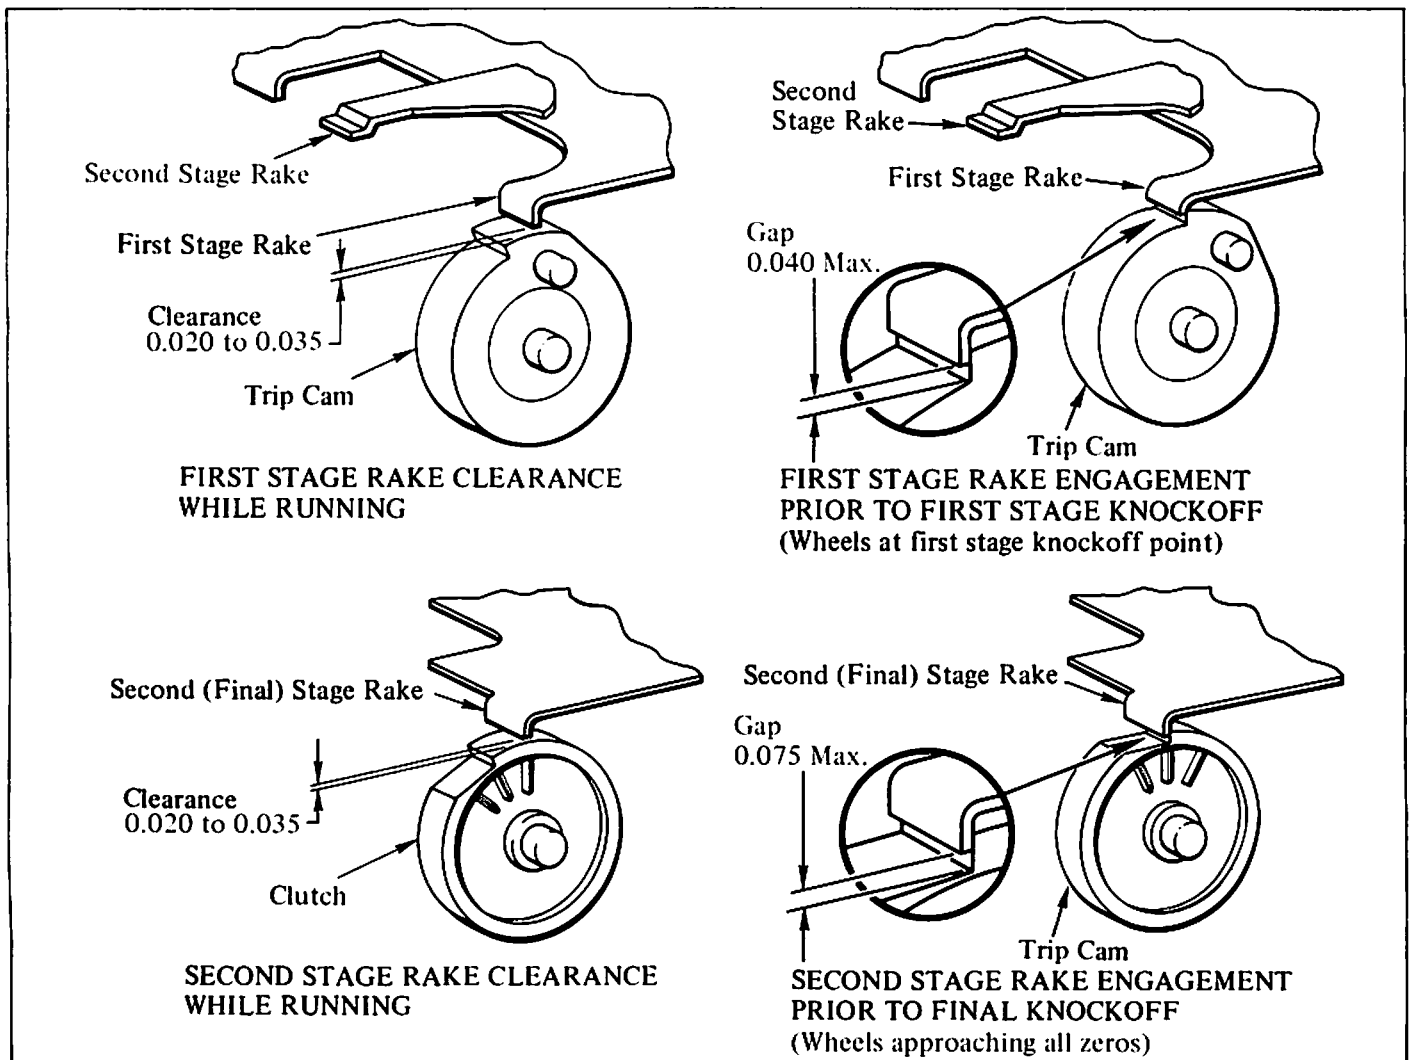

Figure 9. Rake Positioning.
2. Using extreme caution, bend the rake fingers to obtain proper rake positioning (Figure 9).